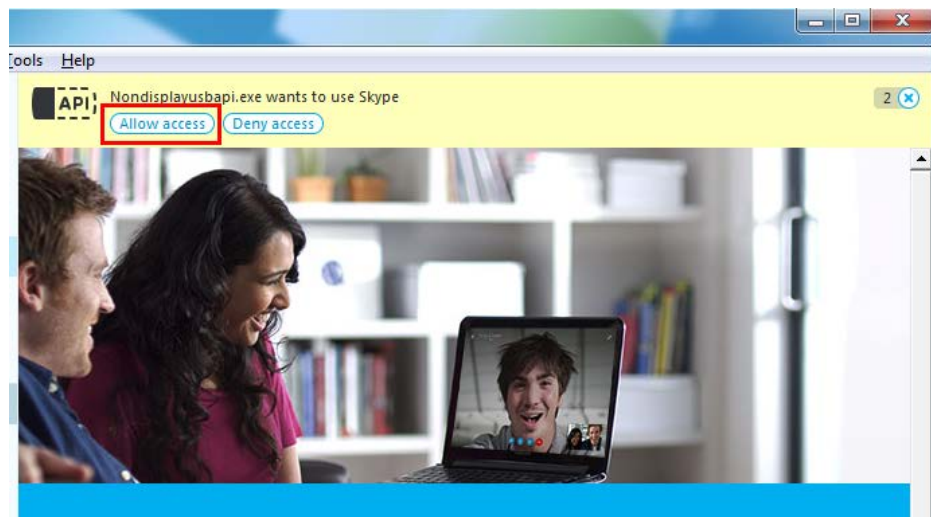

Figure 3-15: Allow API Access
Step 5: Launch Skype. Press the **Allow access** button on Skype (Figure 3-15) to allow handset API access.